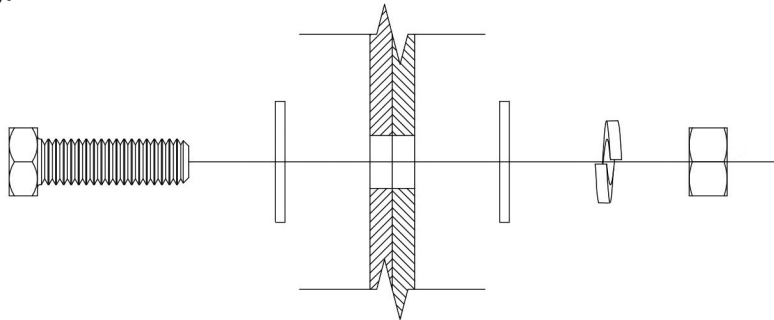

Figure 11.1
STEP 1: Remove all parts from the packaging and familiarize yourself with all the parts and tools required. Find the Bill of Materials on the back of this page and verify that all parts and hardware are present. You will need (2) wrenches that are 9/16" in size for assembly of this product.
NOTE: The typical hardware connection will use (1) 3/8" X 1-1/4" hex bolt, (2) flat washers, (1) lock washer, and (1) 3/8" hex nut. Refer to Figure 11.1 for proper assembly.